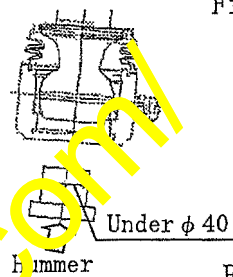

Fig. 7
- Hit the ball stud until the tip end of the ball stud comes out to the upper surface of the housing by use of a hammer. (Refer to Fig. 7 and 8-1.)